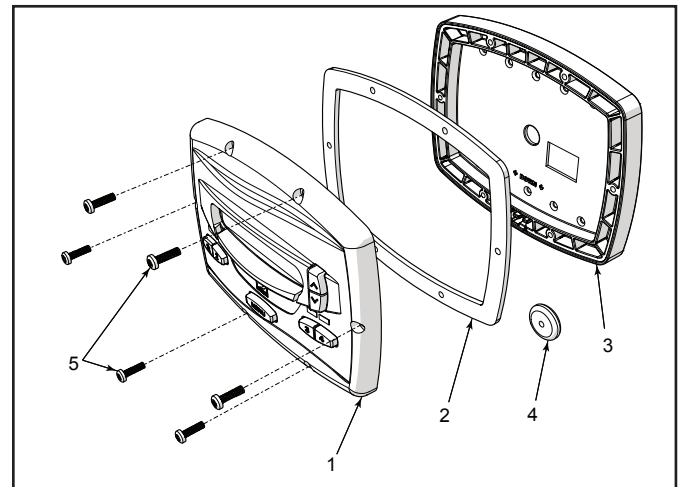

Figure 3. Controller Components
The controller assembly contains the following components. See "Figure 3. Controller Components".
3. Drill out the plastic covering the backplate screw holes. See *"Figure 3. Controller Components"*.
3. A minimum of two (2) fasteners (installer supplied) are required when installing to a flat wall to hold the controller securely.
4. The backplate has ten (10) mounting holes to choose from. Only drill out the plastic film from the holes to be used. See *"Figure 3. Controller Components"*.
6. At the bottom of the backplate, cut the two (2) tabs out with an appropriate tool, such as a carton cutter or an exacto knife, and route the cable through the open channel.